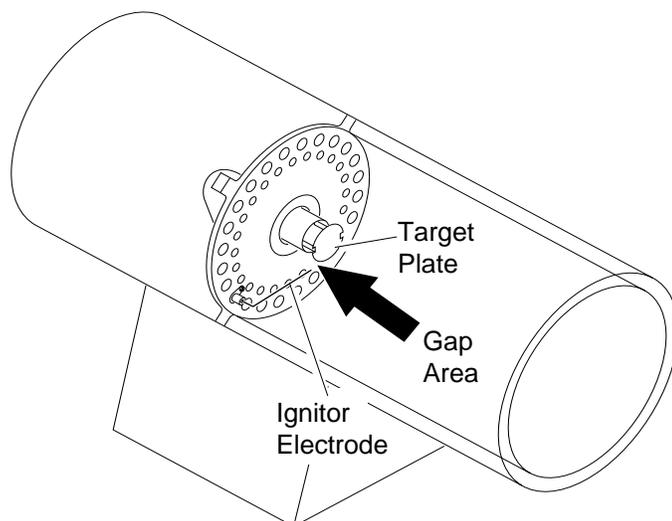

Figure 13 - Clearance between Ignitor Electrode and Target Plate
| | No spark at ignitor. To test for spark, follow step 9 under Ignitor , page 13. If you see spark at ignitor, have heater serviced by qualified service person. If no spark seen: A) Loose or disconnected ignitor wire B) Wrong spark gap C) Piezo ignitor loose D) Bad ignitor electrode | A) Check ignitor wire. Tighten or reattach loose ignitor wire. See Figure 13, page 13 for ignitor wire location. B) Set gap between ignitor electrode and target plate to 4.32 mm (.17"). C) Tighten nut holding piezo ignitor to base of heater. D) Replace ignitor electrode. See Ignitor , page 13. |
7. Set gap between ignitor electrode and target plate to 4.32 mm (.17") (see Figure 13).